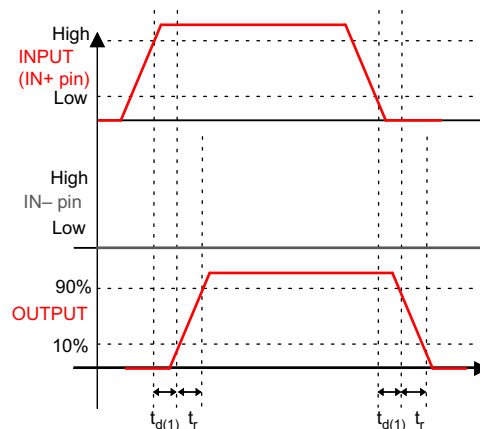
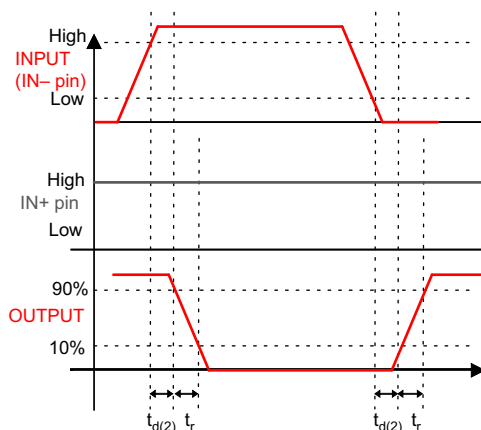

图 5-1. Non-Inverting Configuration (PWM Input to IN+ pin (IN - Pin Tied to GND), Output Represents OUTH and OUTL Pins Tied Together in the UCC27511A-Q1)
图 5-2. Inverting Configuration (PWM Input to IN - Pin (IN+ Pin Tied to V_{DD}), Output Represents OUTH and OUTL Pins Tied Together in the UCC27511A-Q1)
$V_{DD} = 12\text{ V}$, $T_A = T_J = -40^\circ\text{C}$ to 140°C , $1\text{-}\mu\text{F}$ capacitor from V_{DD} to GND. Currents are positive into, negative out of the specified terminal. See 图 5-1, 图 5-2, 图 5-3, and 图 5-4
(1) See timing diagrams in 图 5-1, 图 5-2, 图 5-3, and 图 5-4.